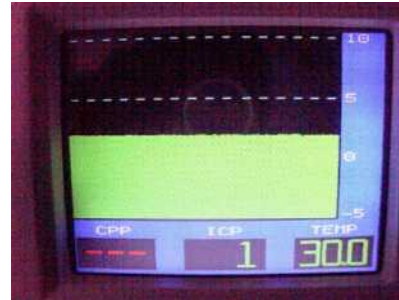

Figure 2-4 CPP/ICP/ICT Display
- Remove the Catheter from the kit tray, and firmly connect the Transducer Connector(s) into the Preamp Connector(s) (Figure 2-3). (If a pressure only catheter is used, then the temperature connector will remain unconnected). After a short system test, the MPM-1 Display will change to the ICP/ICT display (Figure 2-4).